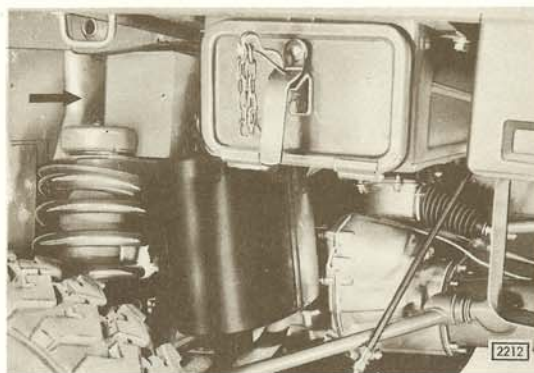

fig. 1
- 6a. Undo heater tube from the platform, pull both heater hoses from the muffler box. Disconnect mufflerbox on the rear attached to the lateral engine cover plate muffler stays with the engine . Lift platform up and secure it by placing a supporting base, approximately 150 mm (6 inches) high. (a piece of hardwood etc), between platform and cross member (see fig. 1).